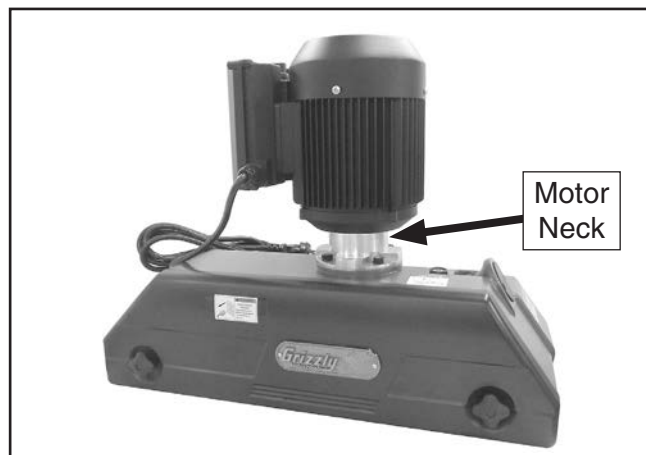
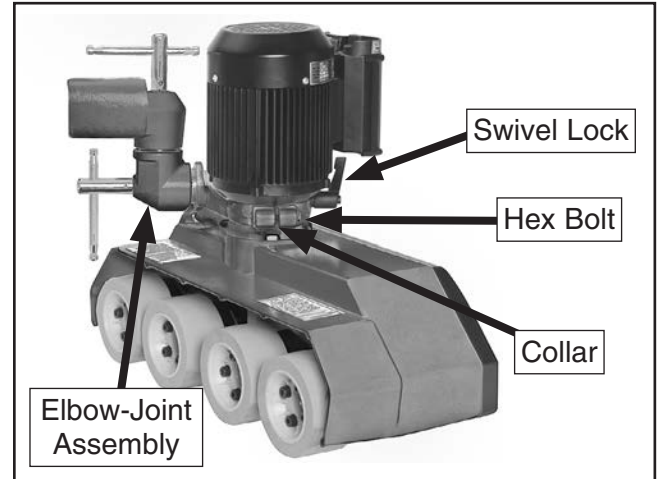

Figure 7. Elbow-joint collar attaches to power feeder around motor neck.
Figure 8. Assembled power feeder.
2. Place elbow-joint collar around motor neck (see **Figure 7**) and secure with hex bolt removed in **Step 1** (see **Figure 8**).
3. Further secure collar on elbow-joint assembly with swivel lock, as shown in **Figure 8**. Tighten hex bolt and swivel lock.